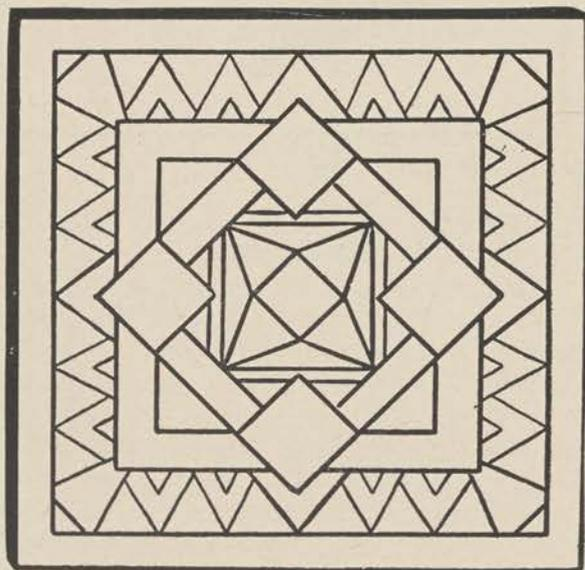

Figure 123.
c. Incising consists of scratching designs in the clay with a sharp tool (fig. 123). It should be done